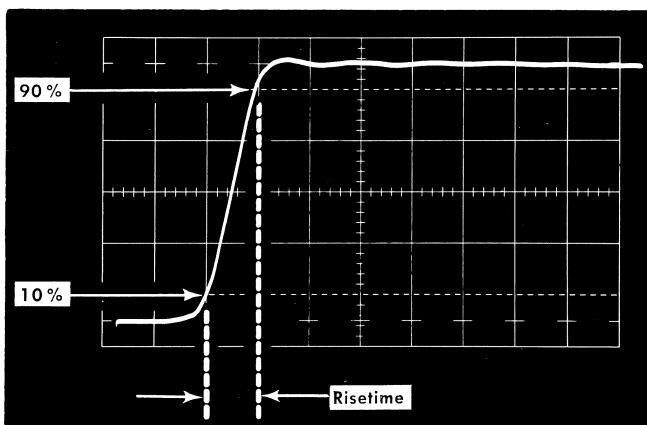

Fig. 6-2. Typical CRT display of 1.0 V Pulser risetime.
f. Measured risetime should be equal to or less than 1.1 ns. See Fig. 6-2.